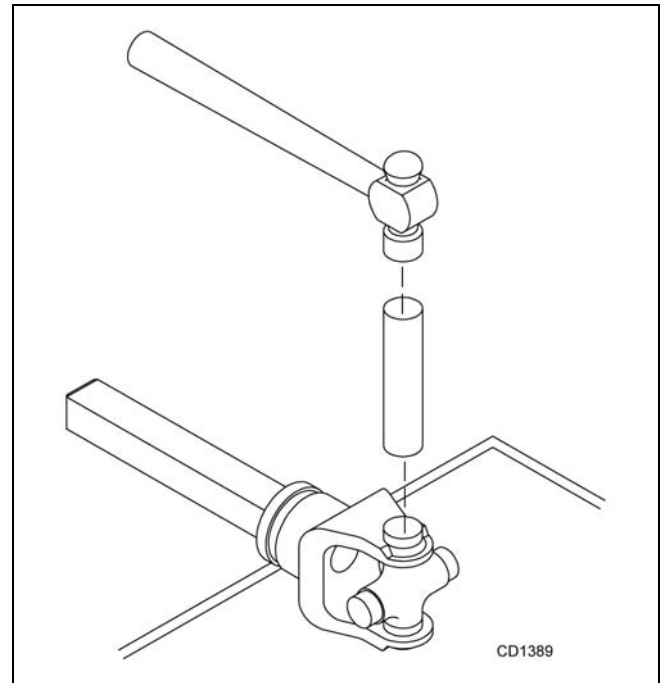

Figure 29. Install Cups
3. Seat cups by placing a drift or socket (slightly smaller than the cup) on cup and rap with a hammer. See Figure 29. Install snap ring and repeat on opposite cup